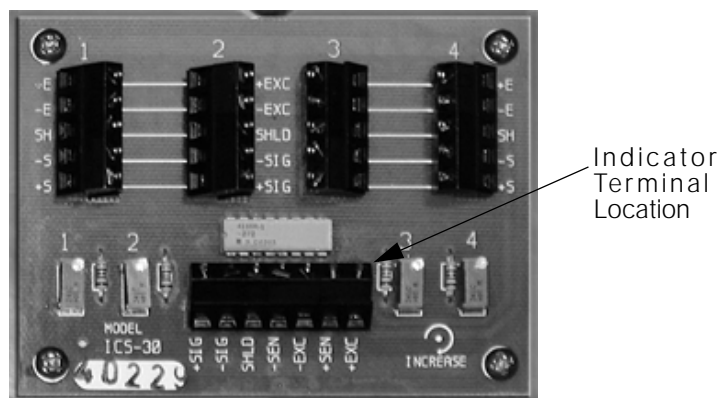

Figure 2-3. Junction Box Wiring Diagram
5. Connect the wires to the indicator terminal (Figure 2-3) as shown in Table 2-1.